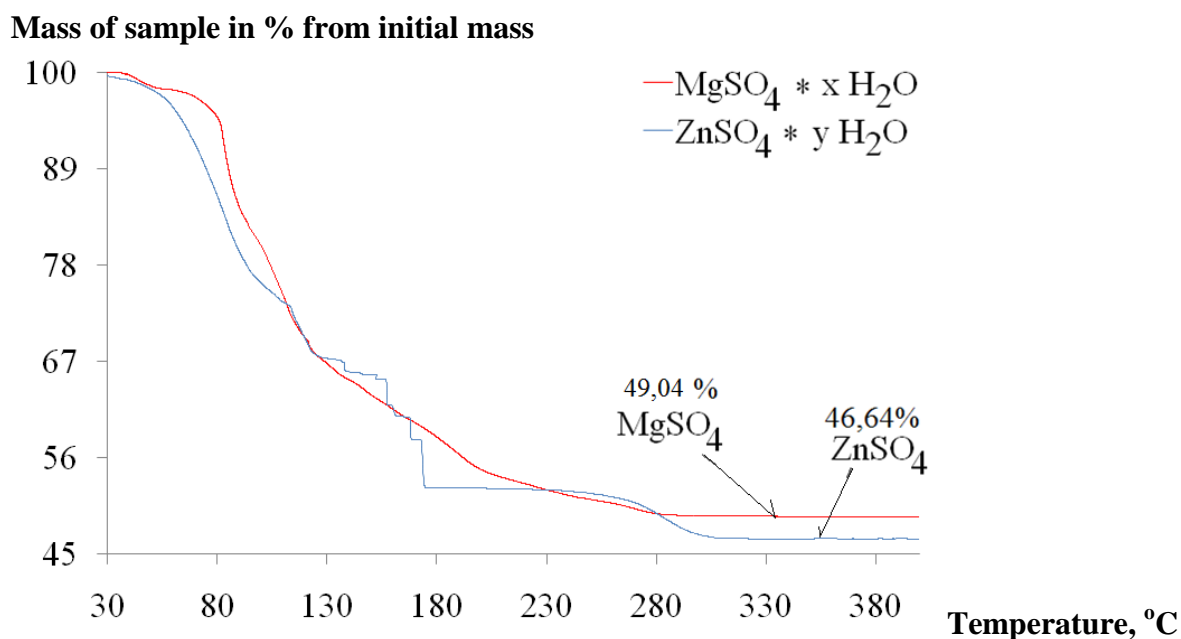

Figure 1. Mass changes in % from starting mass during heating
In this laboratory problem you will have to analyze mixture of magnesium sulfate hydrate and zinc sulfate hydrate. 1st part of laboratory task was performed by organizers who analyzed magnesium sulfate hydrate and zinc sulfate hydrate by thermogravimetry (TG). Hydrates were heated from ambient conditions to 400°C and mass changes were recorded. Corresponding graphs are shown in figure 1 on next page.
1.1. Use data from figure 1. and calculate composition of magnesium and zinc sulfate hydrates, find values of x and y . $M(\text{ZnSO}_4) = 161 \text{ g/mol}$; $M(\text{MgSO}_4) = 120 \text{ g/mol}$; $M(\text{H}_2\text{O}) = 18 \text{ g/mol}$.